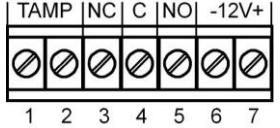

Fig. 4 Morsettiera I Terminal block I Bloque de terminales I Plaque à bornes
8. Connect wire to terminal block.(Fig. 4)
#### 8. Connect wire to terminal block.(Fig. 4)
#### Terminal Block Connections (See Fig. 4)